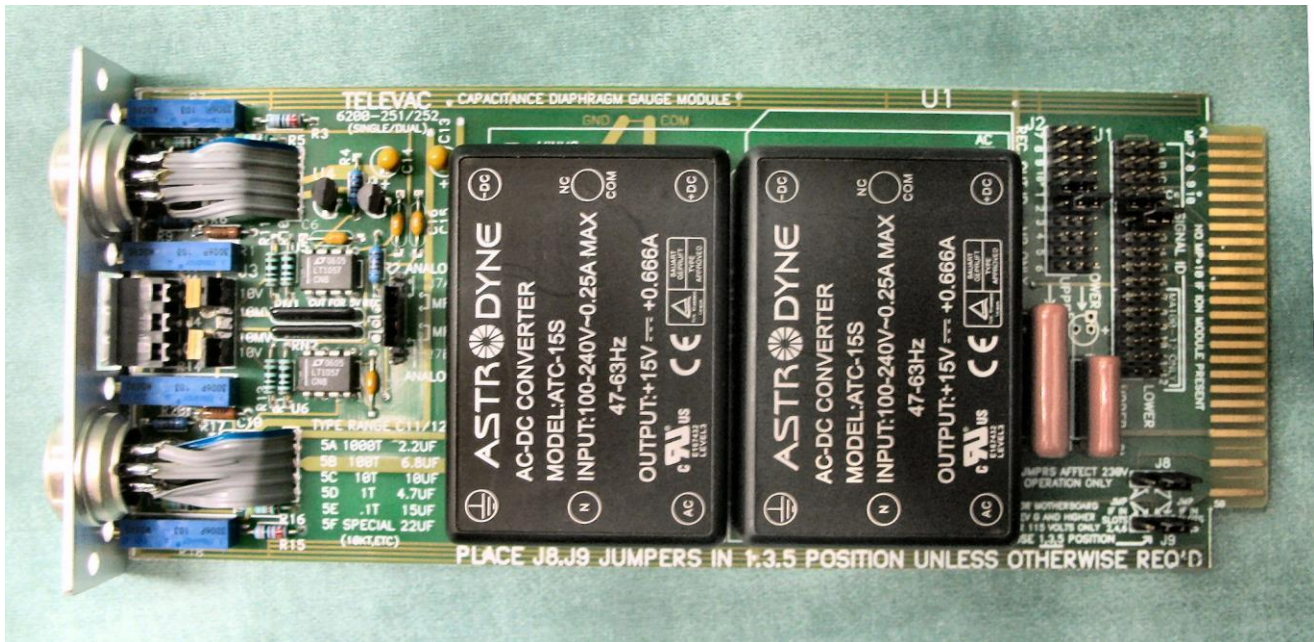

Fig. 9.6a - Capacitance Diaphragm Module
**CAPACITANCE DIAPHRAGM MODULE** - A CDG module is shown in Fig. 9.6a and 9.6b. This module is typical of all modules. The assignment of station identification numbers on a CDG module is accomplished by placing jumpers across the appropriate pins in the SIGNAL ID and the REC OUT ID sections. The upper CDG station has been named station #3 and the lower thermocouple station has been named station #4 as an example. Do not duplicate station # assignments with other modules. Also two (2) jumpers are placed in the "MP" positions of the ANALOG/MP section of the board.